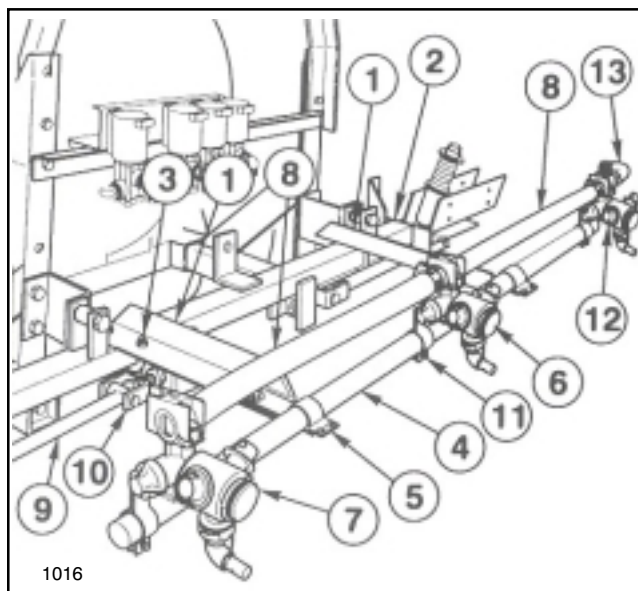

Figure 5
7. Position the two (2) Center Boom angles on the Main Frame and secure them to the Main Frame tube with two (2) square U-bolts, four (4) flat washers and hex nuts. (See FIG. 5.)
8. Center and attach the Center Boom Pipe to the two Center Boom Angles with two (2) clamps, (2) 3/8" x 1" cap screws, flat washers and lock nuts. Once mounted the Center Boom Pipe should be approx. 20" from ground.
9. Loosely attach the Double Barb Turret Body with the Turret Body Clamp in the approximate center of the Center Boom Pipe. For the most uniform spray coverage, position all Nozzles level as shown in FIG. 5.
11. Place two Hose Clamps on two 3/4" x 19" Jumper Hoses and connect the two "end" Turret Bodies to the Double Barb Turret Body. Space nozzles 20" apart and tighten fasteners securely. Apply thread sealer and install the 90° 3/4" Hose Barb on the Threaded Turret Body. (See FIG. 5.)
12. Attach the two Strut Assemblies to the two adjustable clevis' found on each side of the Main Frame tube with two (2) 1/2" x 2" clevis pins and two (2) 1/8" x 1" cotter pins. (See FIG. 5)
17. Adjust the Booms to a level position by adjusting the jam nuts on the adjustable clevis assemblies (See FIG. 5) to the desired position, then tighten the end nuts against the Main Frame plate.